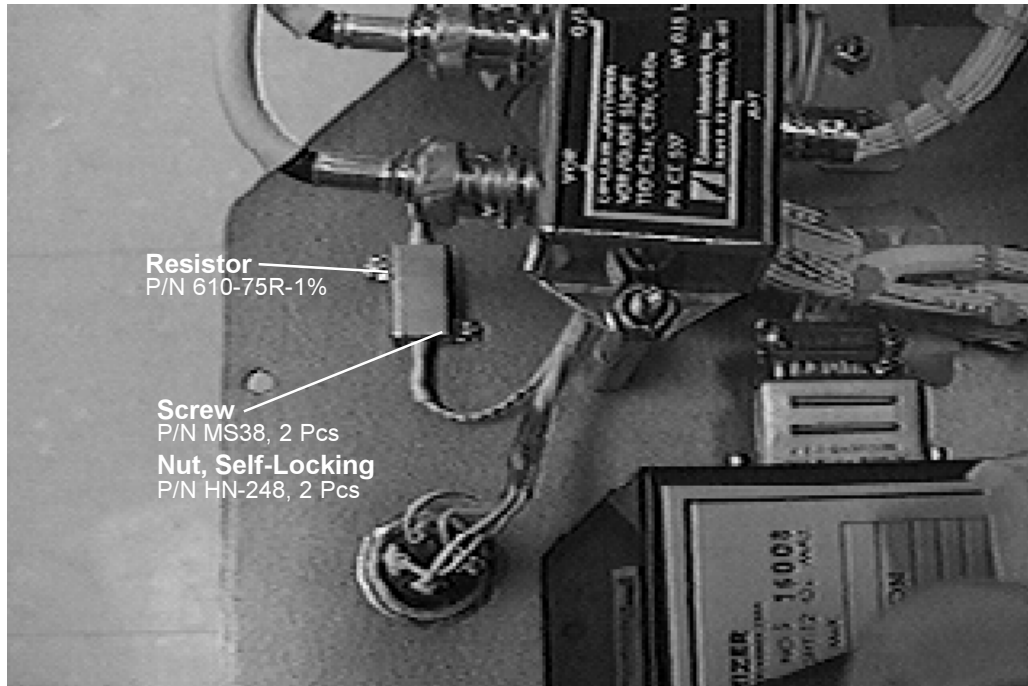
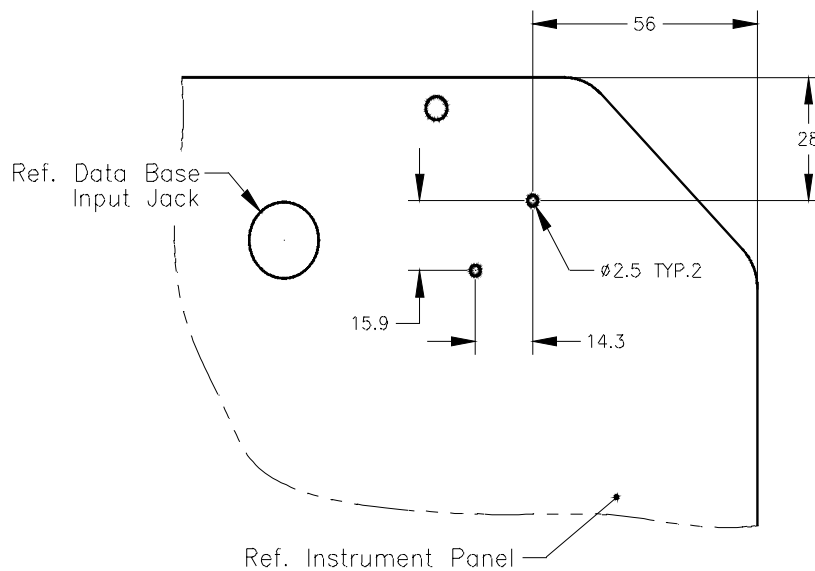
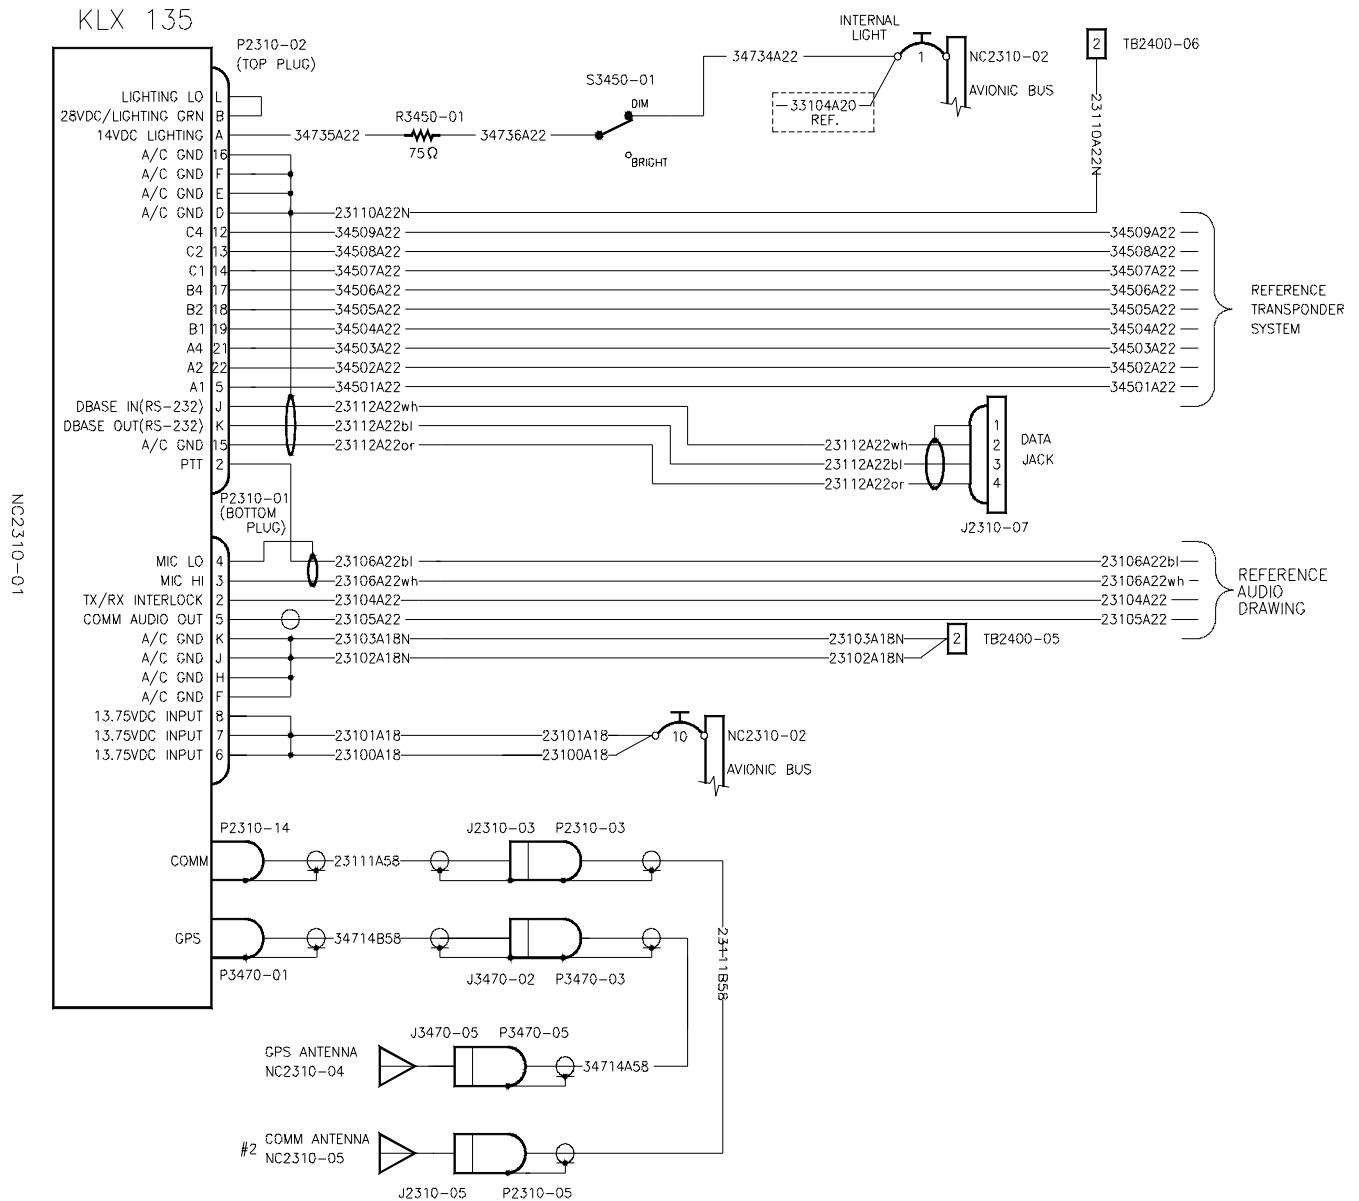

Figure 1. Ref. DAI Engineering Drawing #20-3910-01-00, rev. f
Figure 2. Ref. DAI Engineering Drawing #20-3910-02-01, rev. i
Figure 3. Ref. DAI Engineering Drawing #20-2400-99-00, rev. d
9. **References:** Figure 1, Figure 2, Figure 3, wiring diagram 20-2400-99-00 sheet 3.
- 10.3 Locate the resistor (ref. item 1), layout and drill holes as per figures 1 and 2.
- 10.7 Mount the resistor (ref. item 1) as shown in figure 1.